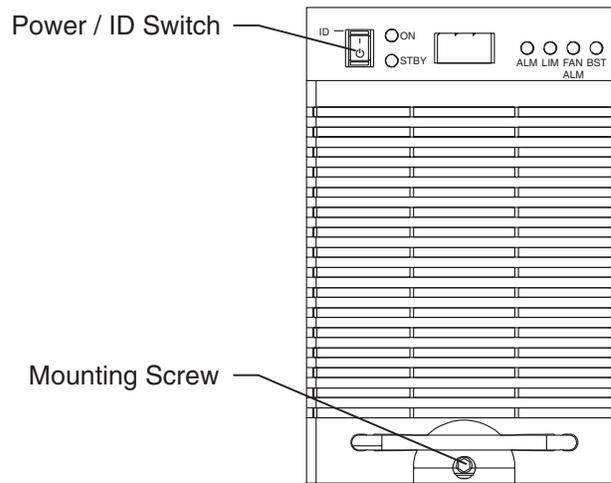

Figure 5-2: 596B4 (+24V / 100A) Rectifier
- Install the first rectifier module, first insuring that the power/ID switch on its front is set in the STBY (standby) position. Then place it into position on the appropriate rectifier shelf and carefully slide it toward the shelf backplane until the module's mounting screw prevents any further backward motion. Use the provided 5-mm hex wrench to seat the rectifier by turning the mounting screw clockwise until it is secure (Figure 5-2).